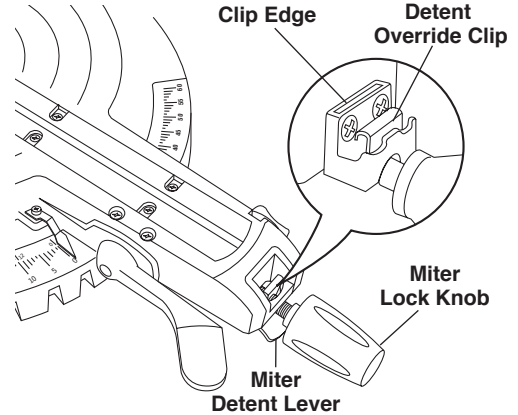

Figure 26. Detent Override
2. Push the detent override clip forward and latch in place over edge. Release miter detent lever (Figure 26).